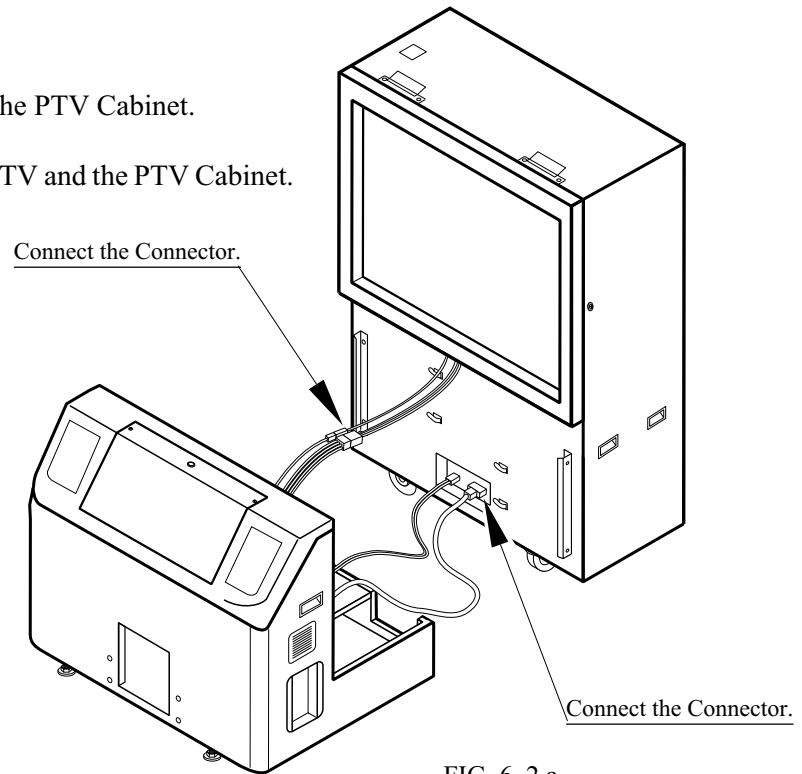

FIG. 6. 2 a
- ③ There are 4 cord clamps in the PTV front. By using the 4 cord clamps, secure the wiring as per the Figure. (FIG. 6. 2 b)
- ④ Mount the PTV onto the PTV Cabinet. Lift the PTV by 3 or more workers while another worker supporting the PTV Cabinet. Be careful so as not to damage wiring at this time.